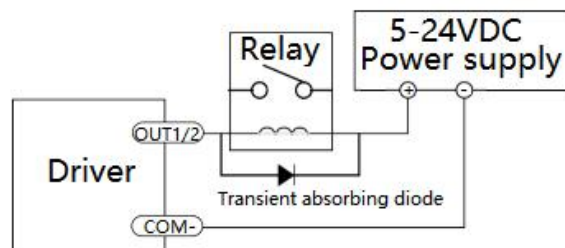

Figure 2-7 Connect with relay
C. Connect OUT1/OUT2 as sinking type output and connect it to the relay, as shown in Figure 2-7 below.